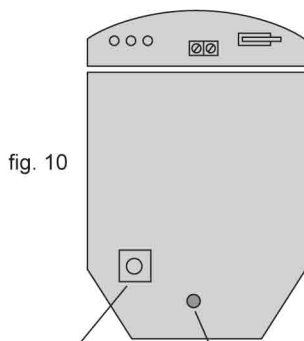

fig. 10
- The user can individually programme a number of configurable settings as illustrated in the programming chart. Factory settings are shown as shaded boxes. Changes to the existing settings can easily be made. To reset the factory settings simply remove power from the detector, press and hold the programme button (fig. 10) whilst temporarily applying power to the detector: either before installation, with a PP3 battery, or by applying 12 Volts to the unit on site.
- 1) Press the programme button as shown in fig. 10 for the number of the Option to be changed i.e. once for range, twice for pulse count, three times for LED.